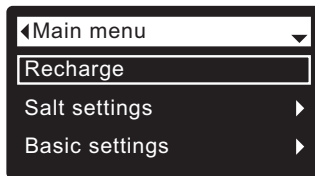

FIG. 30
During normal operation (status screens rolling), press the conditioner/refiner’s SELECT (O) button to display the Main menu (See Figure 30). This menu and its subsidiary screens are used to control these operations: